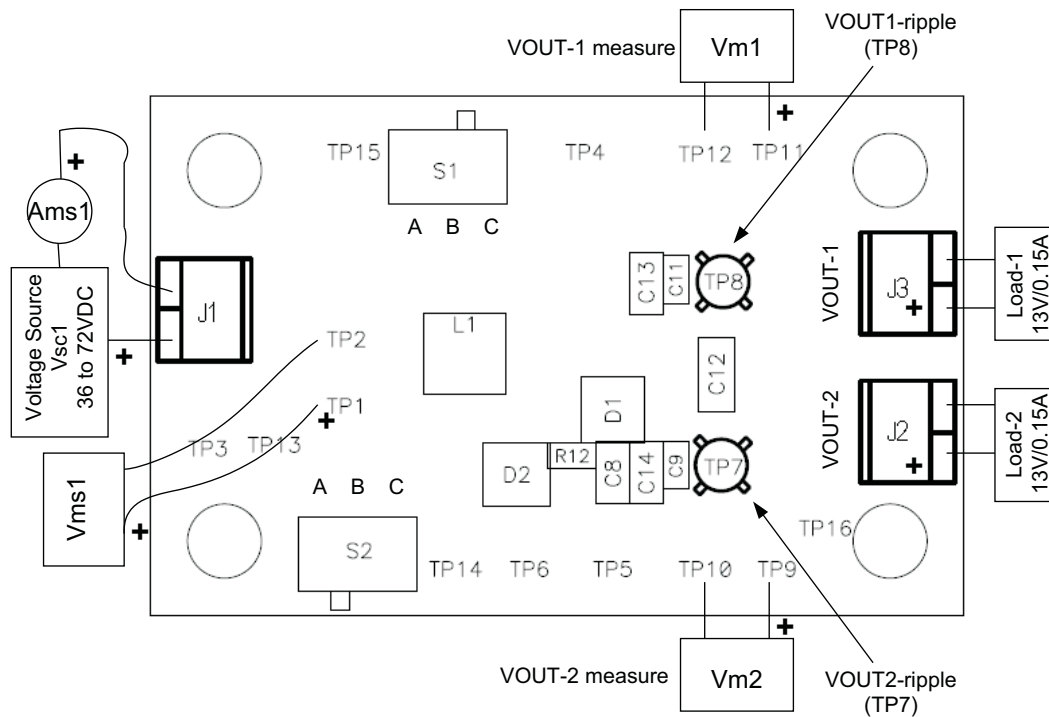

Figure 2. UCC25230EVM-754 Recommended Test Set Up
Voltage Source: V_{sc1} , the input voltage shall be a variable DC source capable of supplying up to 72 V_{DC} at no less than 0.35 A_{DC}, and connected to J1 and Ams1 as shown in Figure 2.
Output Load (Load-1 and Load-2): Electronic, 0 mA_{DC} to 200 mA_{DC} (2 units), For the output load on VOUT1 and VOUT2, a programmable electronic load capable of sinking not less than 100 mA_{DC} shall be used. The loads should have a current display, if not then an ammeter should be added in series with the load. Refer to the schematic shown in Figure 2.
Set up the EVM based on Figure 2.
1. Connect the ammeter Ams1 (0 mA to 100 mA range) between DC source and J1 as shown in Figure 2.
2. Prior to connecting the DC source, Vsc1, it is advisable to limit the source current to 0.35 A maximum. Make sure the DC source is initially set to 0 V and connected to J1 and Ams1 as shown in Figure 2.
3. Connect voltmeter, Vms1, on to the test points, TP1 (+) and TP2 (-) as shown in Figure 2.
4. Connect Load-1 to J3 as shown in Figure 2. Set Load-1 to constant current mode to sink 0 mA_{DC} before the input voltage on J1 is applied.
5. Connect voltmeter, Vm1 to test point TP11 (+) and TP12(-). Set Vm1 range 0 V to 13 V_{DC} as shown in Figure 2.
6. Connect Load-2 to J2 as shown in Figure 2. Set Load-2 to constant current mode to sink 0 mA_{DC} before the input voltage on J1 is applied.
7. Connect voltmeter, Vm2 to test point TP9 (+) and TP10(-). Set Vm2 range 0 V to 13 V_{DC} as shown in Figure 2.